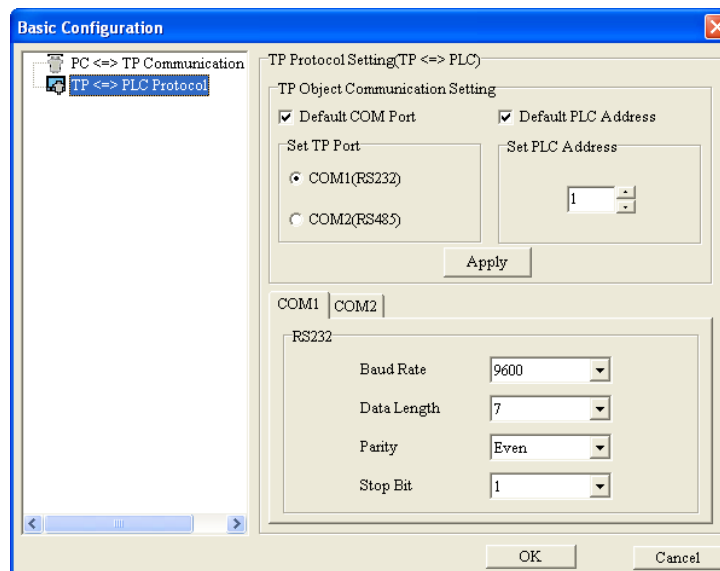

Figure 3-14 TP<=>PLC Protocol
- **TP<=>PLC Protocol:** Users can set the communication between a TP series text panel and the equipment connected to the TP series text panel, as shown in Figure 3-14.